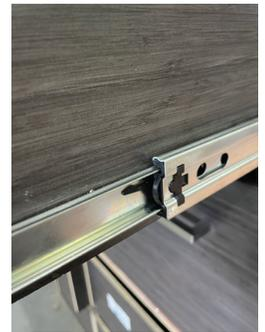

Figure 9: Back levers on the drawer tracks
Step 3A: Locate the black levers on the left and right sides off the drawer track (figure 9).